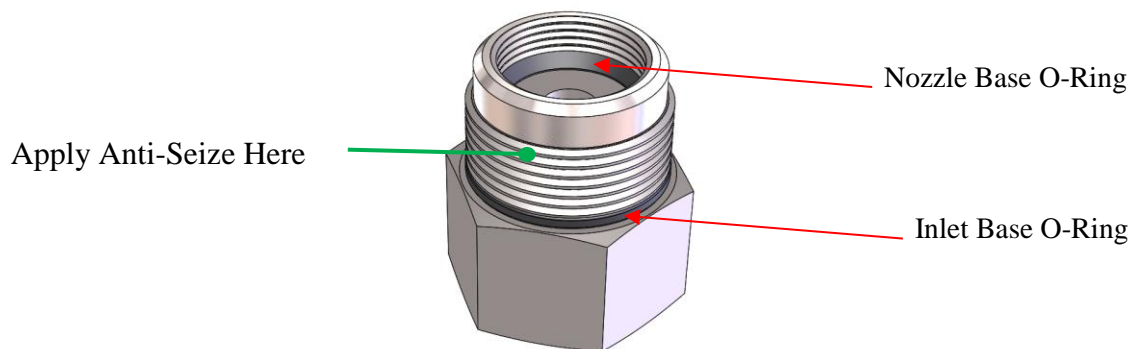

Figure 24: Inlet Base
2. Install the nozzle base o-ring into the lower corner of the nozzle pocket. See Figure 24.
4. Install the inlet base o-ring over the threads of the inlet base. See Figure 24.
28. Lightly lubricate the inlet base threads with anti-seize. See Figure 24.